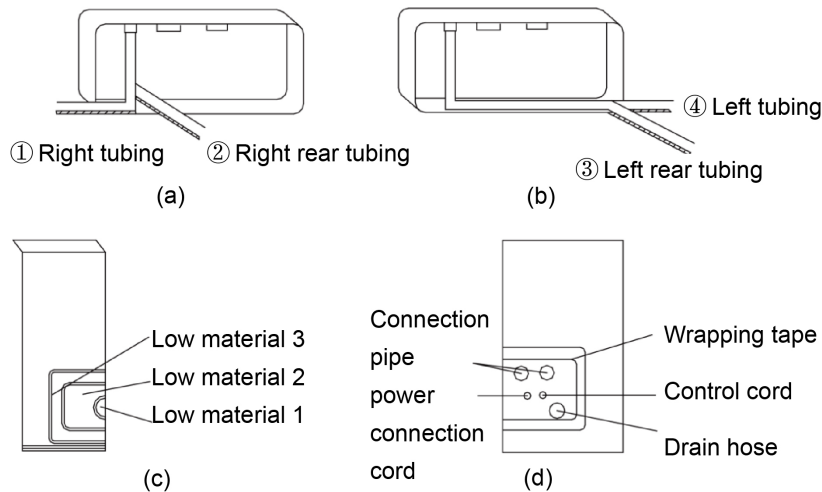

Fig. 5.6
(Shown in Fig. 5.6)
- (2) Let the tubing and cord pass through the piping hole after tied up (Refer to Fig. 5.6 (d)).
- (3) Hang the claw behind the indoor unit on the pothook on the wall panel, and move the unit left and right to check if the body is firm.
- (4) Guarantee that the installation height of the indoor unit should be 2.5m above the floor.